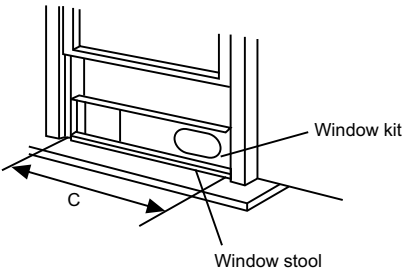

Fig.9
2. Attach the window slider kit to the window stool. Adjust the length of the window slider kit according to the width of window, shorten the adjustable window kit if the width of window is less than 26.5" (67.5 cm). Open the window sash and place the window slider kit on the window stool. Fig.9